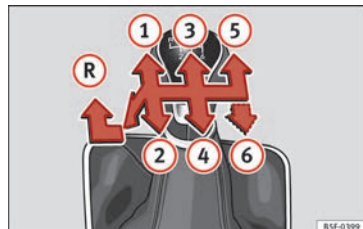

Fig. 42 Gear shift pattern of a 5 or 6-speed manual gearbox.
The position of the gears is indicated on the gearbox lever »» **Fig. 42**.
- With the gearbox lever in neutral, push it downwards, move it to the left as far as it will go and then forwards to select reverse »» **Fig. 42** **(R)**.